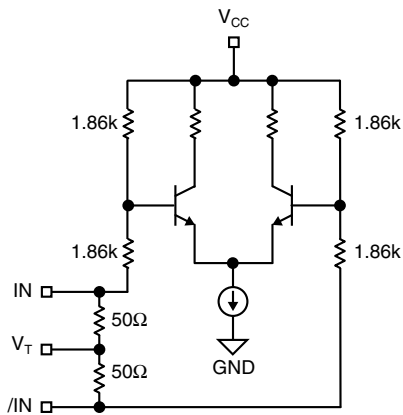

Figure 2a. Simplified Differential Input Buffer
- Note 3.** Due to the internal termination (see Figure 2a) the input current depends on the applied voltages at  $I_N$ ,  $I_{IN}$  and  $V_T$  inputs. Do not apply a combination of voltages that causes the input current to exceed the maximum limit!
**Note 3.** Measured as per Figure 2a,  $100\Omega$  across Q and /Q outputs.